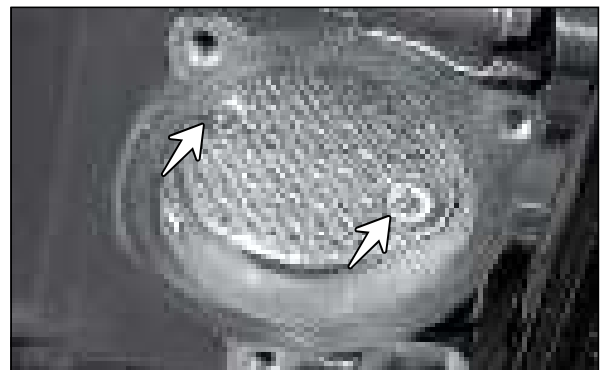

Fig. 2.33
- Loosen the CRR pan head screw (M5x12 - 2 Nos.) and remove the strainer complete engine oil along with a 'O' ring. Inspect the strainer for any damage. Replace if necessary. Otherwise clean and reassemble the parts in the revers order of removal. (Fig. 2.33)